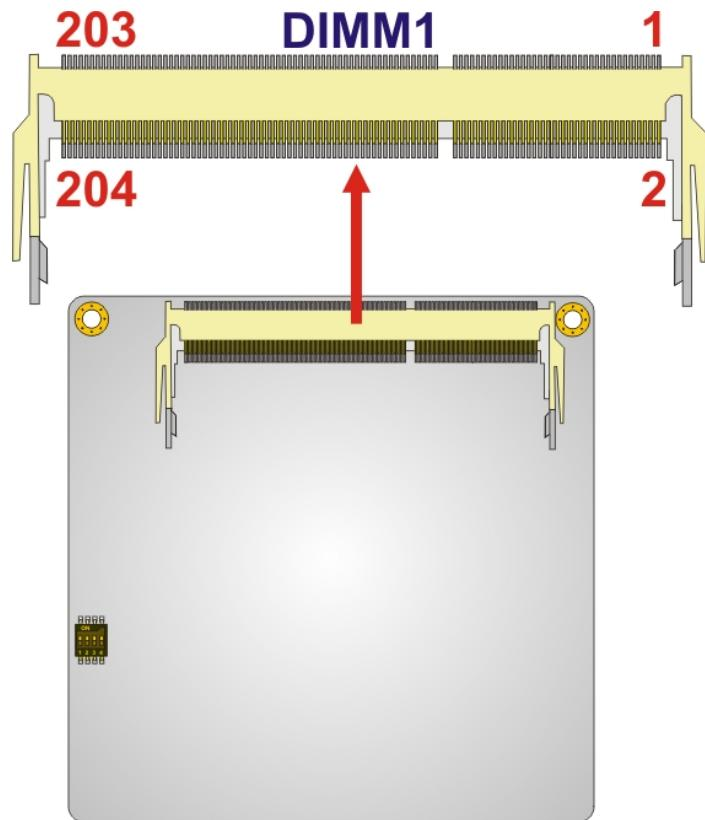

Figure 3-5: SO-DIMM Connector Location
**CN Location:** See **Figure 3-5**